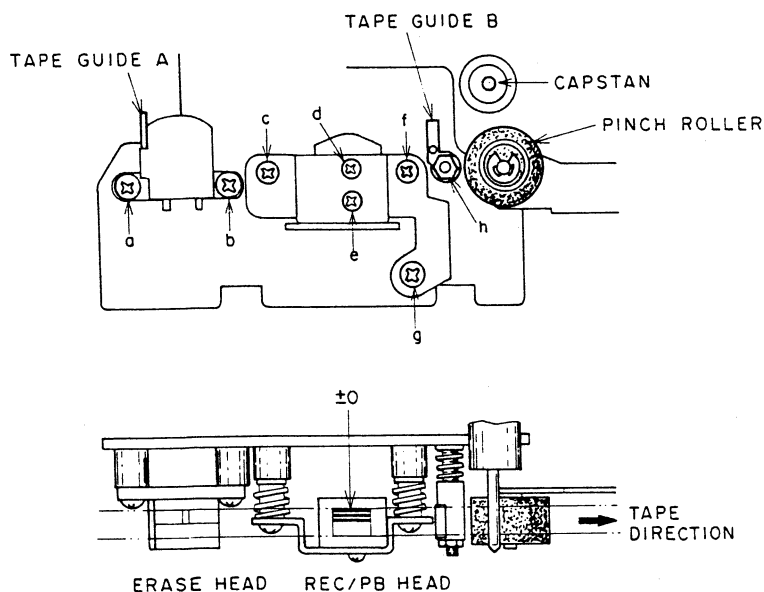

Fig. 9 Head Adjustment
### 1. TAPE GUIDE HEIGHT ADJUSTMENT (Refer to Figs. 9, 10)
- 2) At playback mode, using the tape guide (A) shown in Fig. 9 as standard for height, adjust tape guide (B) height with tape guide height adjustment nut so that the tape runs smoothly and does not catch on the tape guides.
### 2. RECORDING/PLAYBACK HEAD HEIGHT ADJUSTMENT (Refer to Figs. 9, 10)
- 2) As shown in Fig. 9 adjust head height with screws (c) (f) and (g) until the upper edge of the tape is the same height as the upper edge of the left channel REC/PB head core.
### 3. RECORDING/PLAYBACK HEAD AZIMUTH ALIGNMENT ADJUSTMENT (Refer to Fig. 9)
- 1) Playback a 10 kHz pre-recorded cassette azimuth alignment test tape and adjust screw (c) shown in Fig. 9 to obtain maximum output on both channels.